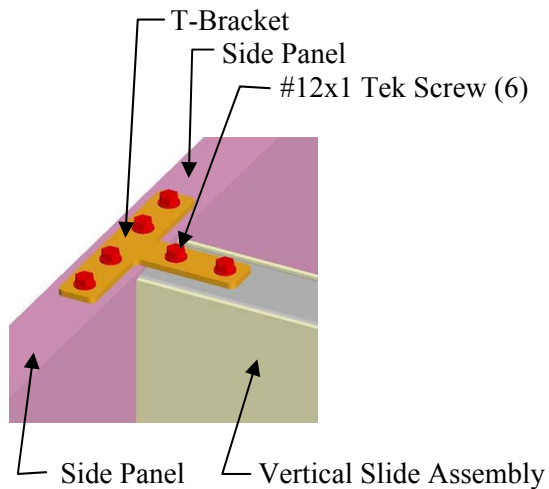

Figure 46 (On the Top)
1. For Side Panels and Vertical Slide Assemblies at the end of each row, attach a T-Bracket on the top of both joining Side Panels and Vertical Slide Assembly using 1" self-drilling Tek Screws as shown in **(Figure 46)**. Follow the same instructions to attach Bracket on the other end of the kennels.